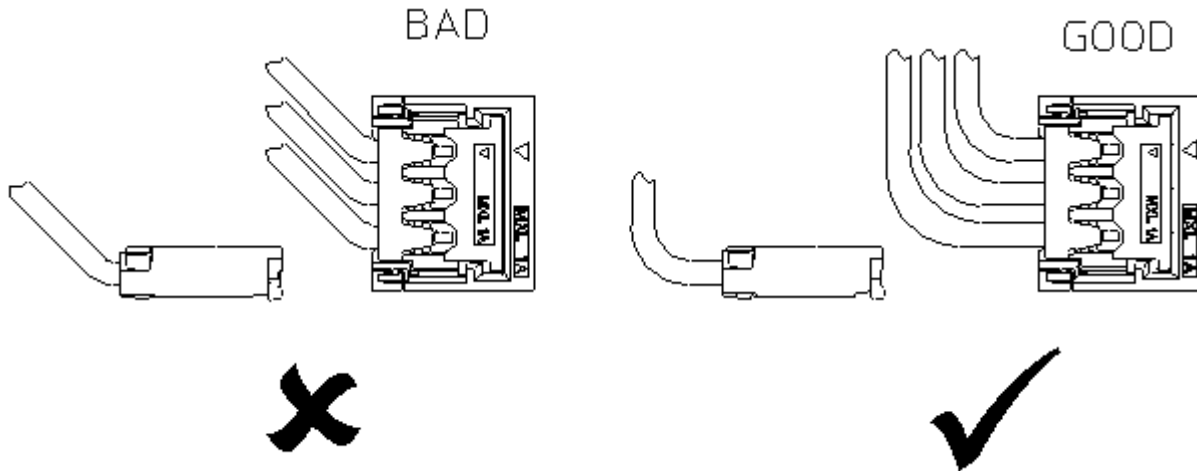

FIG. 7
3.3.1 Make certain the areas & space where the connector placed are clear and sufficient to prevent over stress on plug wires as example shown in fig. 7.